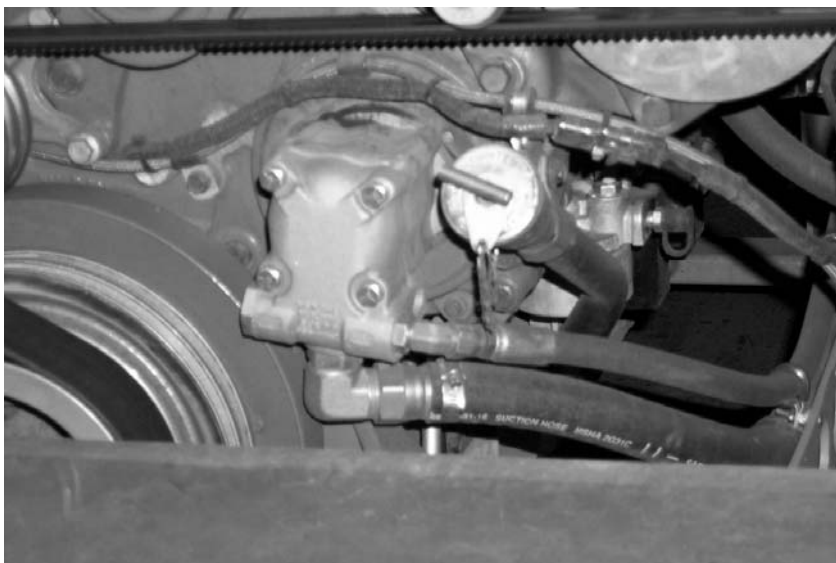

FIGURE 1: POWER STEERING PUMP LOCATION
1. Locate hydraulic pump (power steering pump) in engine compartment (Fig. 1).